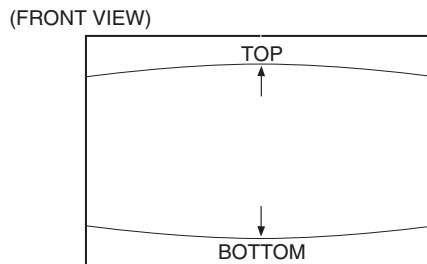

Fig. 5
1. Move the deflection yoke up and down to adjust the pin cushion distortion in the screen top and bottom. (Fig. 5)